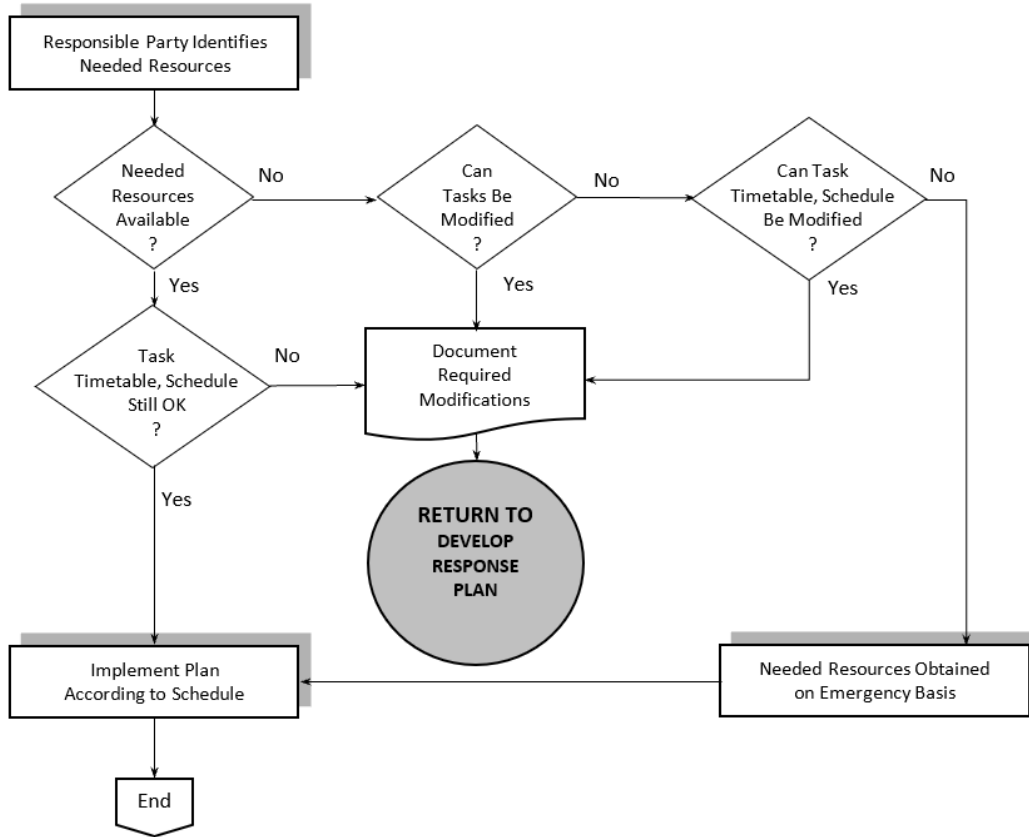

Figure 4
- System to Track and Document Progress (Figure 4)
The **System to Track and Document Progress** (Figure 4) is widely applicable through all four stages of the Plan-Do-Check-Act process. Metrics established at the Plan stage now come full circle.